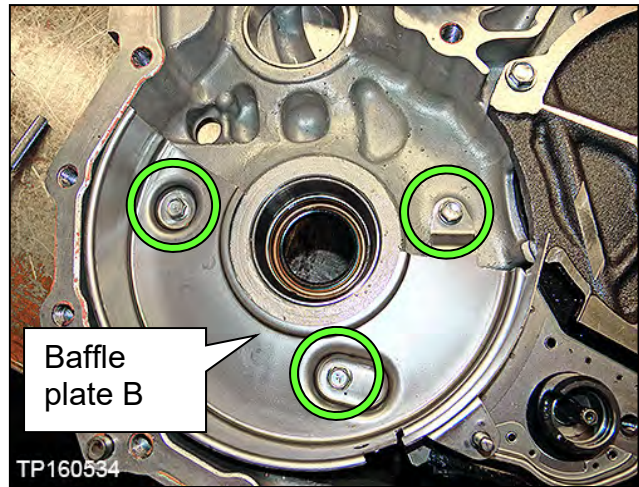

Figure 46
27. Remove the three (3) bolts from baffle plate B, and then remove baffle plate B (Figure 46).